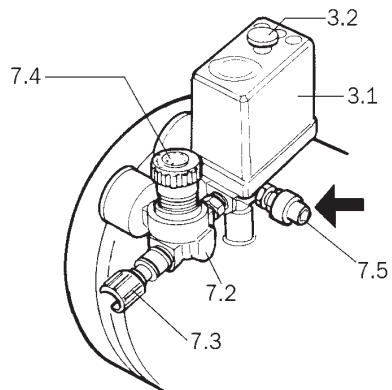

fig. 7
**B** - The pressure reducer 7.2 does not function properly (*fig. 7*).
### The safety valve 7.5 is released before the pressure reaches maximum level (*fig. 7*)